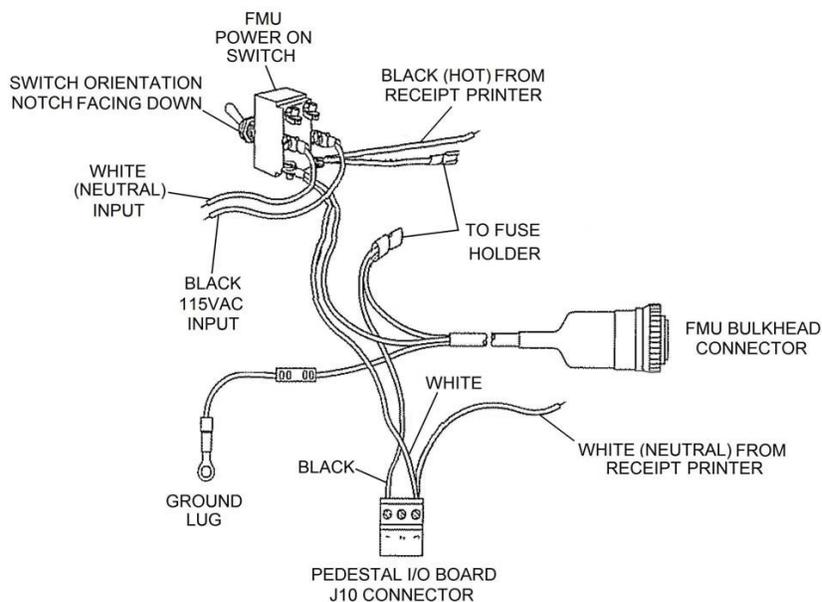

Figure 4 Pedestal Receipt Printer Wire Connections
20. Remove the locknut, washer, and alignment ring from the FMU power ON switch (Figure 4).